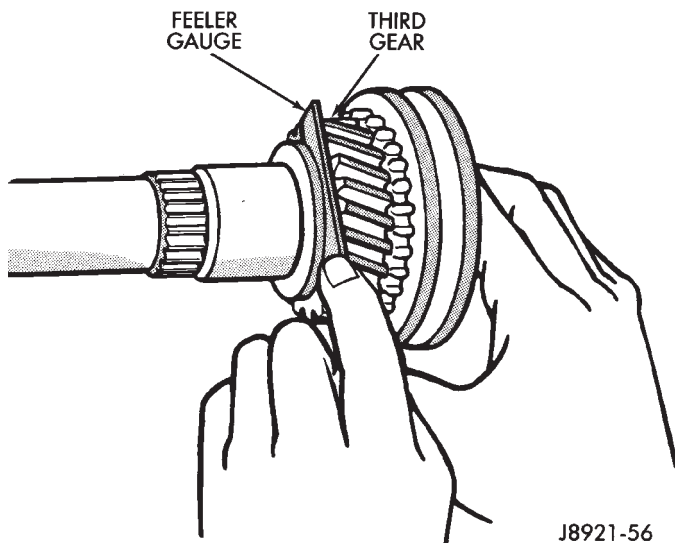

Fig. 120 Check Third Gear Clearance
(10) Verify third gear thrust clearance with feeler gauge (Fig. 120). Clearance should be 0.10 – 0.30 mm (0.003 – 0.0118 in.). If clearance is out of specification, refer to Cleaning and Inspection section within this group.